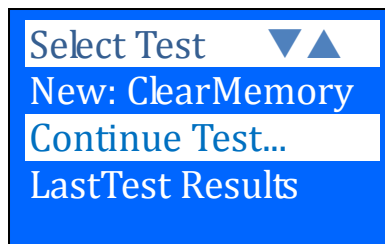

Figure 66
2. It will run through a self-test and when completed it displays the Main Menu as shown: (Fig. 66)